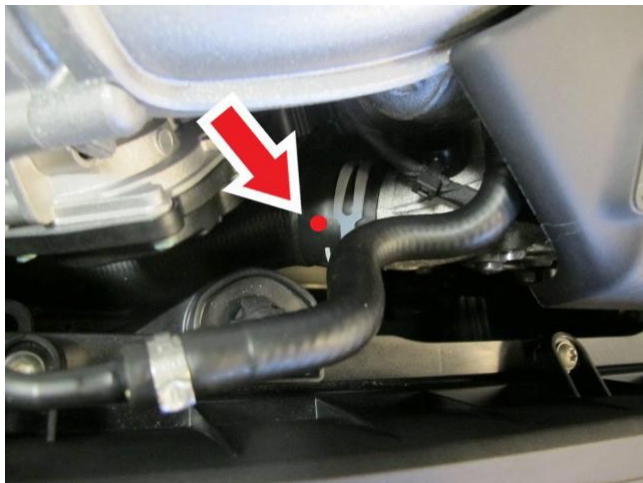

Figure 5
- 10) Apply a red paint completion mark on the radiator top hose (Figure 5)
Red paint completion mark on the radiator top hose confirms the initial fan operation check and the software update were both conducted (Figure 5)